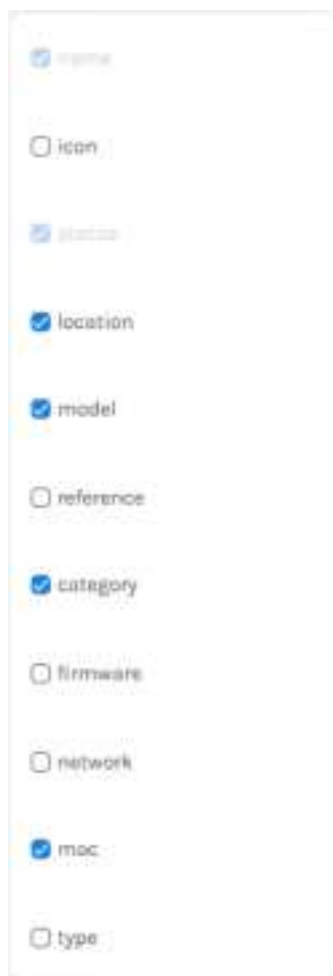

Figure 17
19. Clicking this button will display a pop-up window where the user can select what information about the devices they want to appear on the page. Figure 17